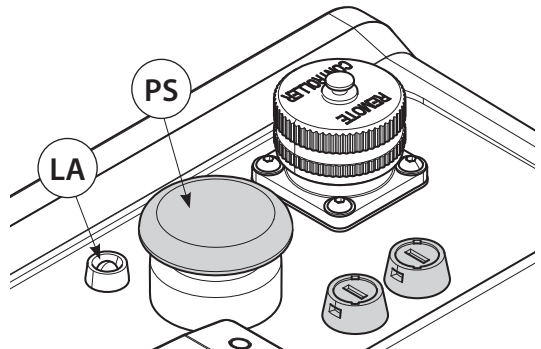

FIG. 3
- *If required, by pressing the mechanical pressure release button (PS) (see Fig.3) on the pump, the oil will return to the reservoir independent of the status of the external power supply.*
The pump is equipped with a self-diagnostic system; the condition of yellow LED (LA) (Fig 3) indicates malfunction **with subsequent interruption to pumping.**